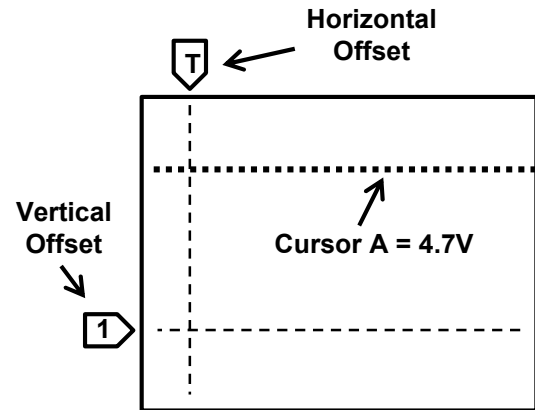

Fig. 6: The vertical and horizontal offsets on your scope should look something like this.
- Offset (small knob) = -3V to make 0V in the lower half of the screen (see Fig. 6).
- Adjust the offset (small knob) to move the orange “T” marker near the left edge of the screen (see Fig. 6).
- Adjust Cursor A to be at +4.7V (see Fig. 6).